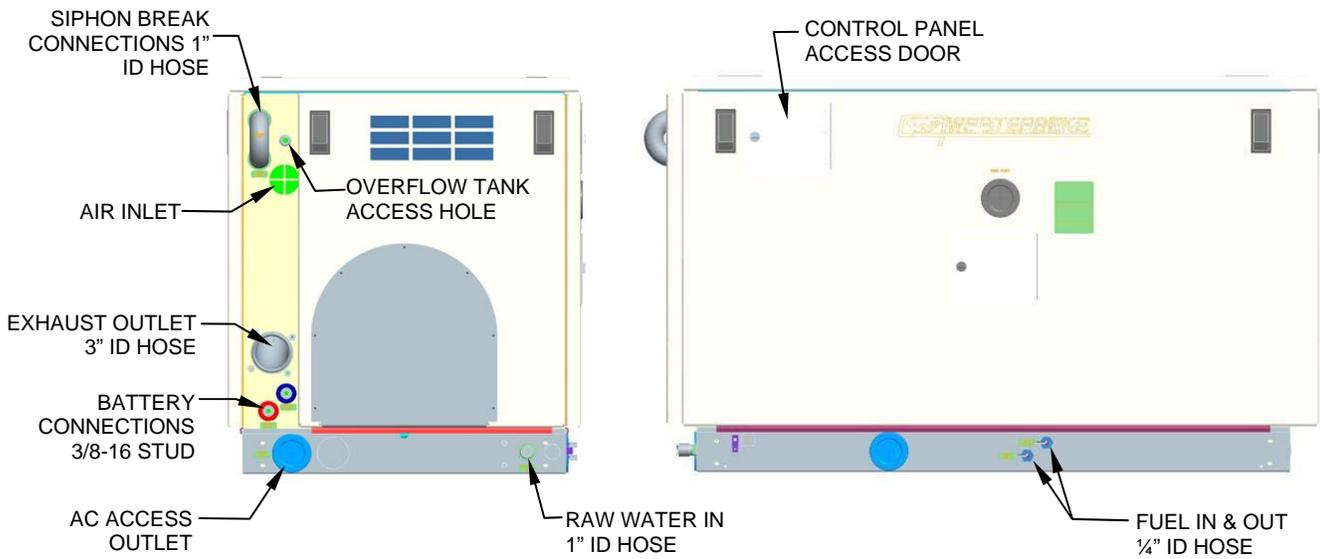

Fig. 4
- Install and connect the provided hoses and cables between the engine/generator and appropriate bulkhead fittings located on the base and rear frame sections. Use the following checklist to ensure all internal connections are made. See Fig. 4